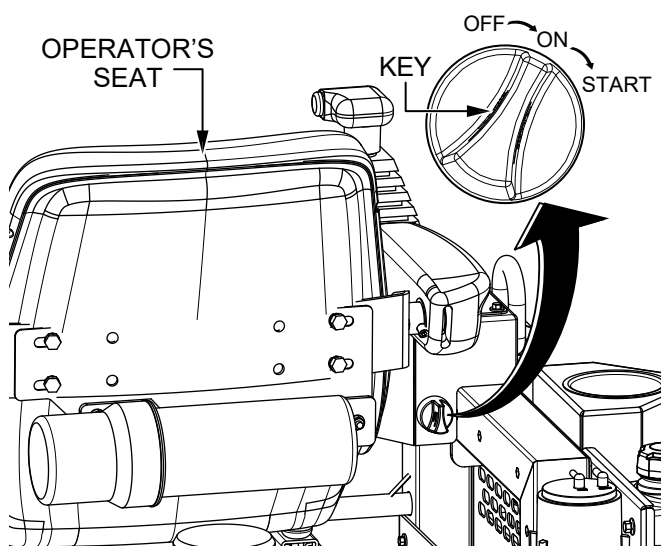
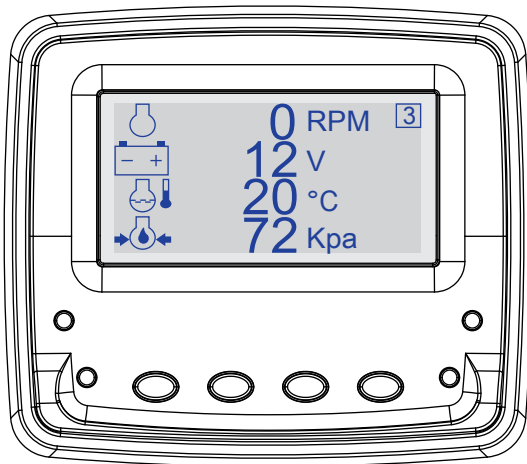

Figure 18. Ignition Key Switch
Figure 19. Diagnostic Display (Key Switch ON)
2. Insert the **ignition key** into the **ignition switch** (Figure 18).
- Turn the ignition key **clockwise** to the **ON** position (Figure 18). The **diagnostic display** will turn on as shown in Figure 19.